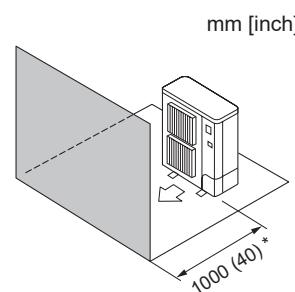

Fig. 2-9
(4) Obstacles at front only (Fig. 2-9)